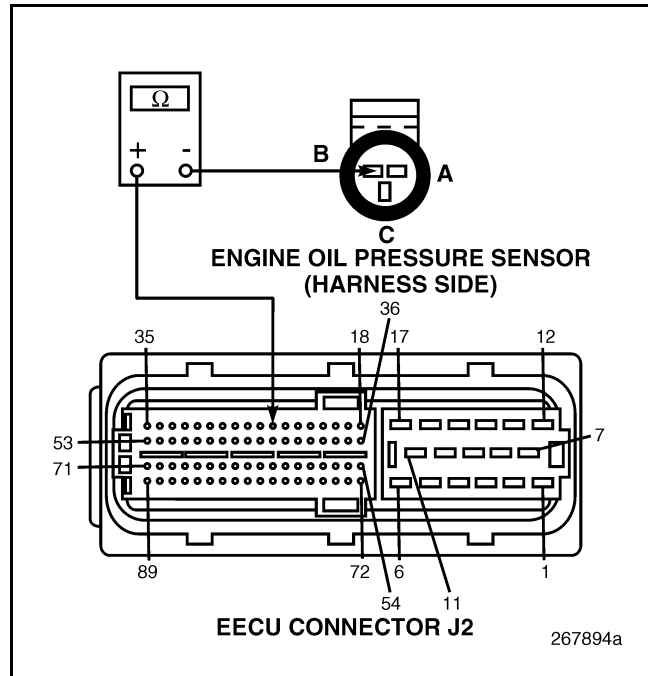

Figure 28
3. Check for continuity between Engine Oil Pressure (EOP) Sensor harness connector pin B (reference voltage line) and EECU harness connector J2 pin 25 (see Figure 28).